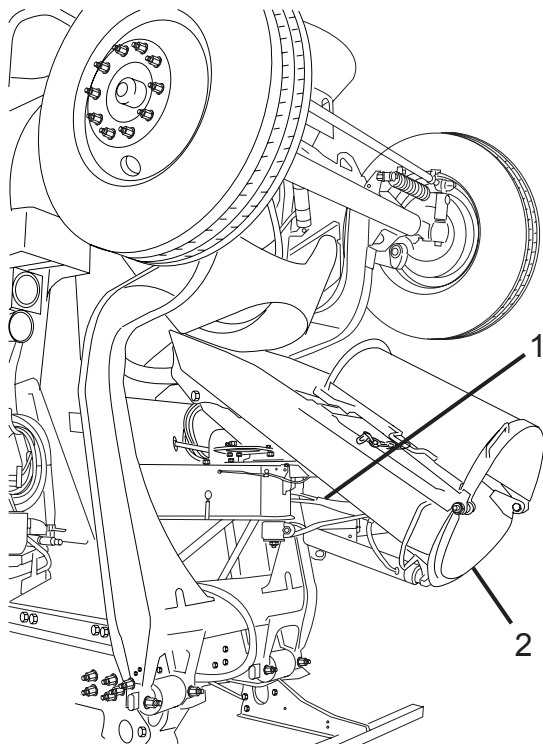

Figure 30
2. While holding the chute, pull down on the lever (Figure 30, Item 1) and move it to the right or left until the lever is seated in one of the lock positions.
3. Move the main chute (Figure 30, Item 2) to the desired position, and while holding the chute, move the lever to the center. Make sure the lever pin is fully seated into one of the holes in the chute plate before releasing the chute. Move the chute from side to side as needed to align the pin and hole.